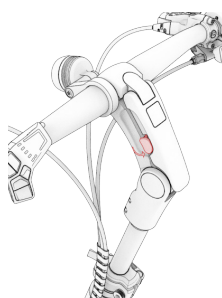

Abb. 3.1
**Open the stem:** Press down the safety button on the left-hand side of the lever (Fig. 3.1).